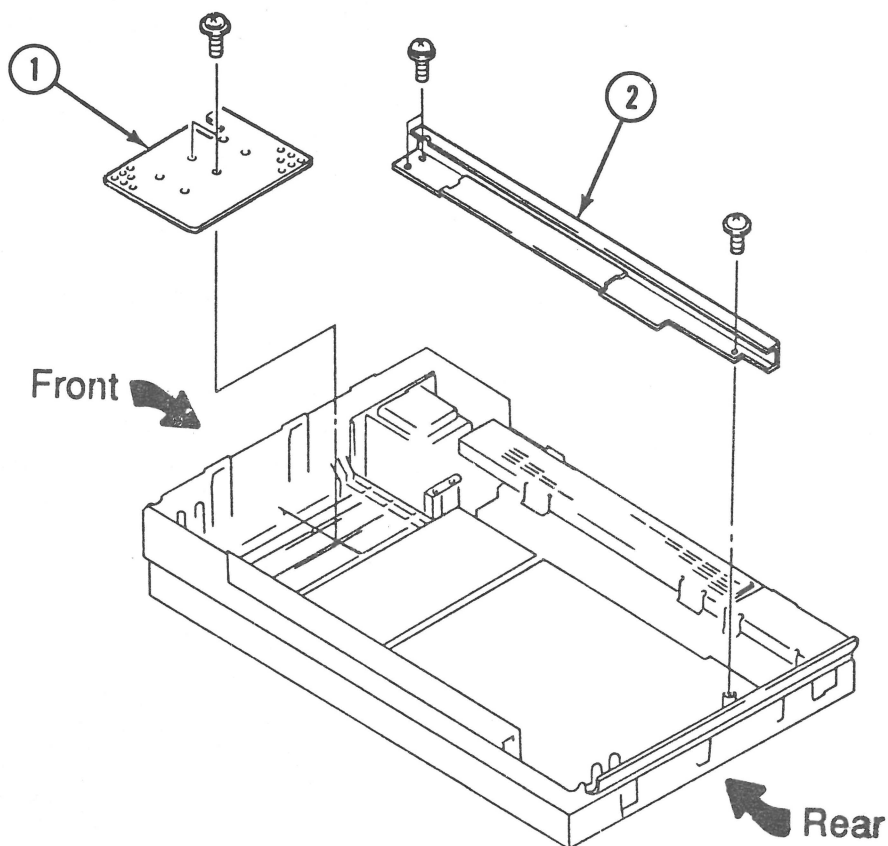

FIGURE 19
3. Remove the two screws from the front inside cover (Figure 19, #1), and remove the cover.
4. Remove the left guide rail (Figure 19, #2) by removing the three screws that secure it to the case. This action will allow access to the power supply board.